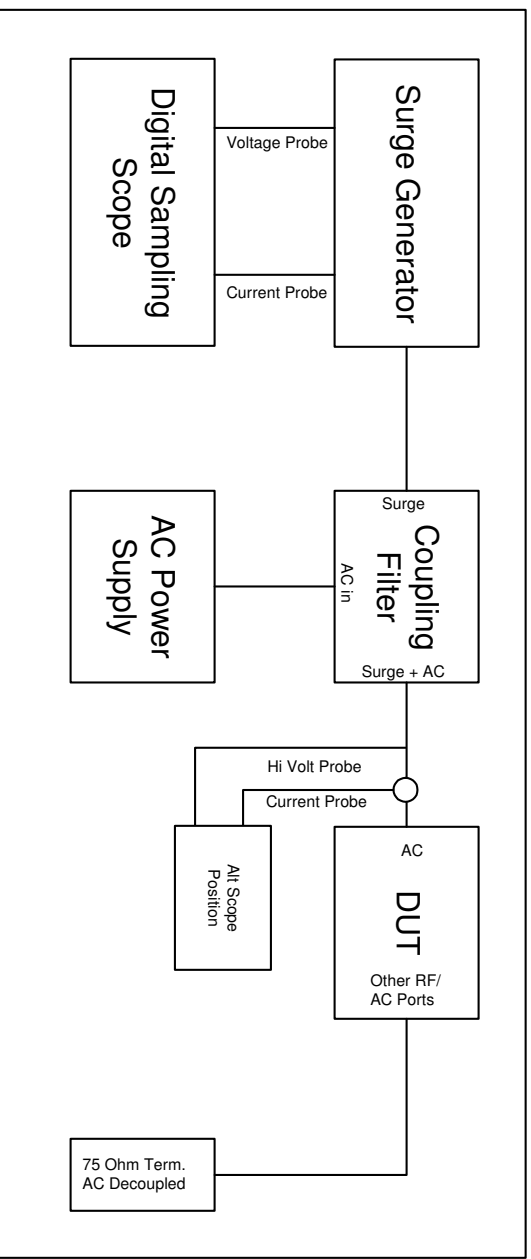

**Figure 4, Combined RF and AC Port**
- 3.4 The surge equipment shall be connected in accordance with the selected setup of Figures 4 to 9. Alternate scope connections are shown for direct measurement at the DUT. The waveform (Ring Wave or Combination Wave) and open circuit peak voltage and short circuit peak current of the surge pulse shall be selected as required by the specifications of the DUT for the particular terminal being tested.